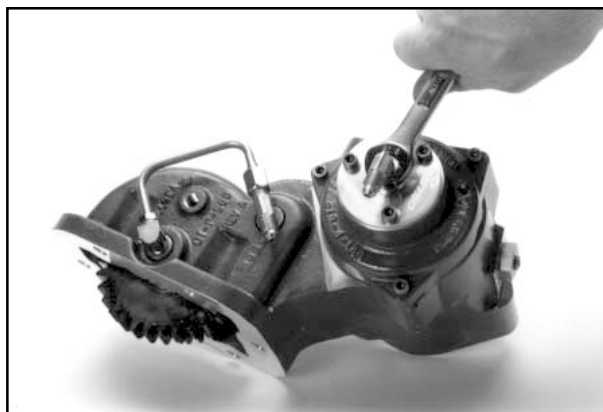

Figure 1
1. Using a 9/16" wrench, install the 90° O-Ring elbow (379486) in the three-bolt plate on the side of the P.T.O. as shown in **Figure 1**.